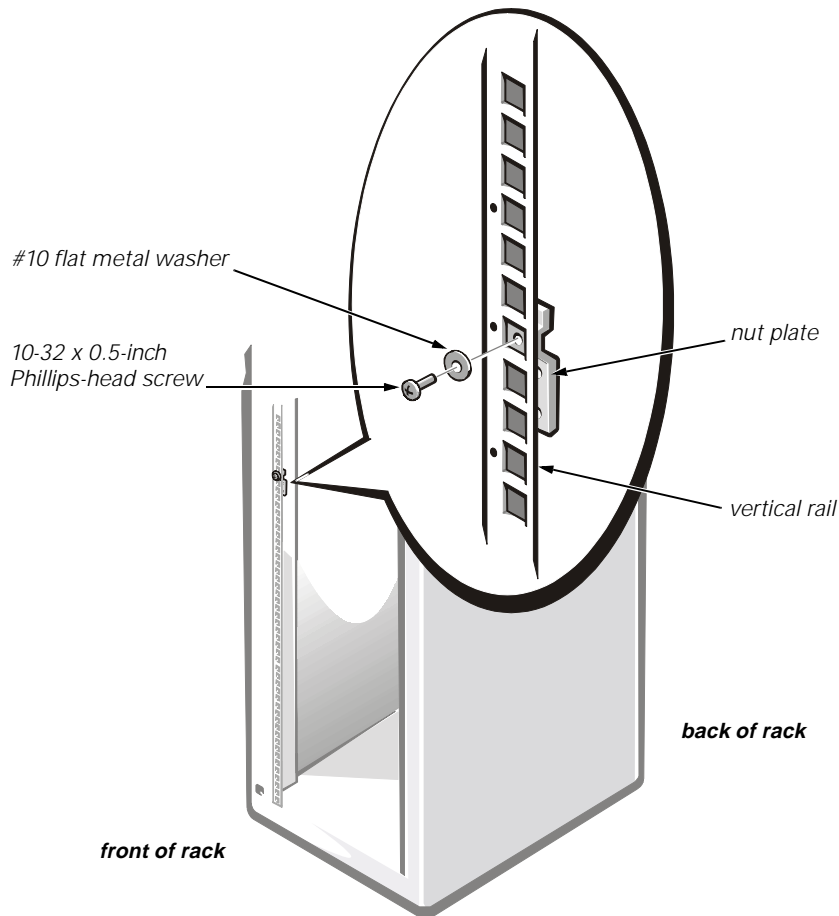

Figure 4. Determining Where to Install the Slide Assemblies
- a. Install the nut plates on the vertical rails where you want the ends of the slide assemblies to be located (see Figure 4). Each nut plate is held in place by one 10-32 x 0.5 inch Phillips-head screw and one #10 flat metal washer.